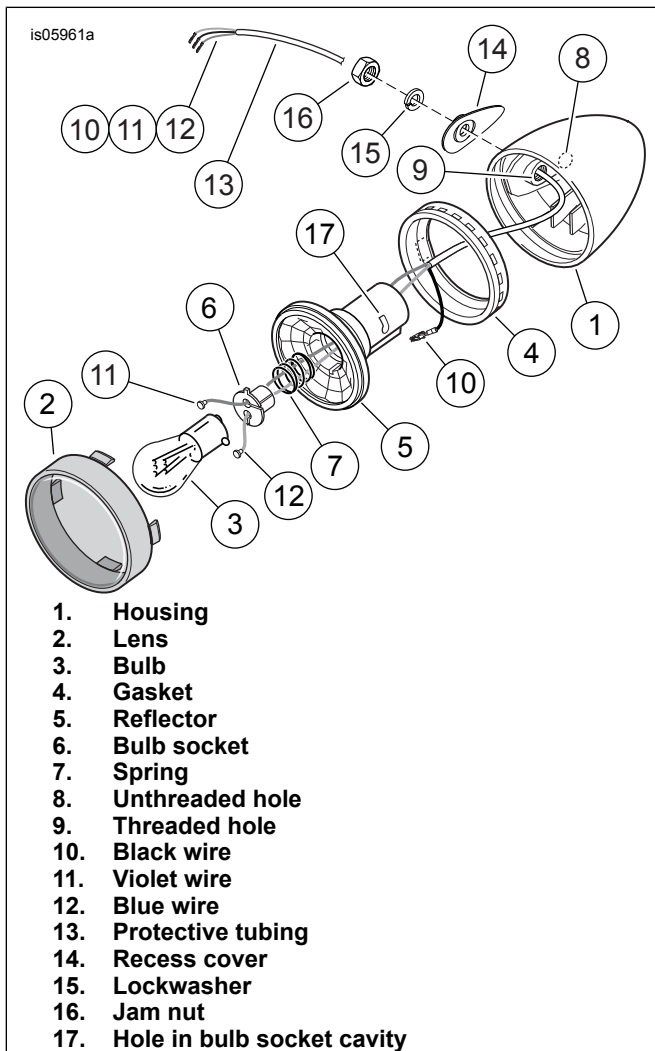

Figure 1. Stop/Tail/Turn Signal Lamp (Right Side Shown)
1. See Figure 1. Insert the blade of a small screwdriver into the slot at the bottom of the lens (2) of one STT lamp, and twist to unsnap the lens from the housing (1). Push the bulb (3) in and rotate counterclockwise to remove. Set the lens and bulb aside for later installation.